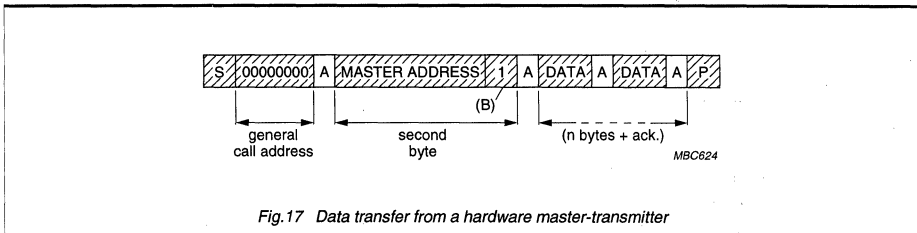

Fig. 17 Data transfer from a hardware master-transmitter
**When bit B is a 'one';** the 2-byte sequence is a 'hardware general call'. This means that the sequence is transmitted by a hardware master device, such as a keyboard scanner, which cannot be programmed to transmit a desired slave address. Since a hardware master doesn't know in advance to which device the message has to be transferred, it can only generate this hardware general call and its own address - identifying itself to the system (Fig. 17).